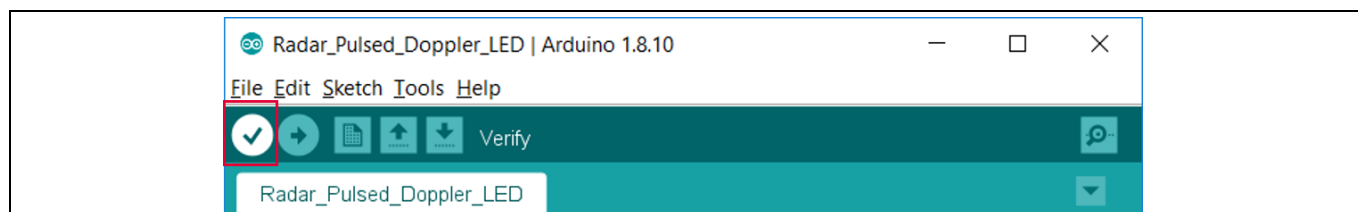
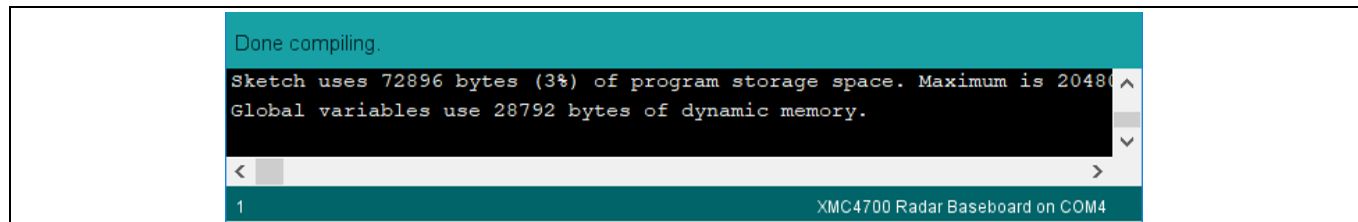

Figure 18 Compiling the sketch
Figure 19 Compilation successful
3. Compile the sketch by clicking the “Verify” button (Figure 18). A success message will be displayed on compilation completion (Figure 19).